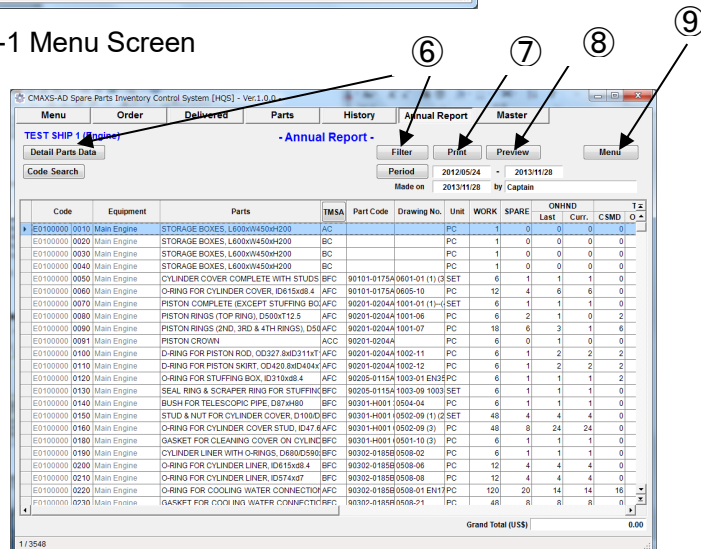

Fig.11-3 Annual Report Screen
(5) "Annual Report Screen"(Fig.11-3) is displayed. In this screen, all spare parts registered in master database are shown.